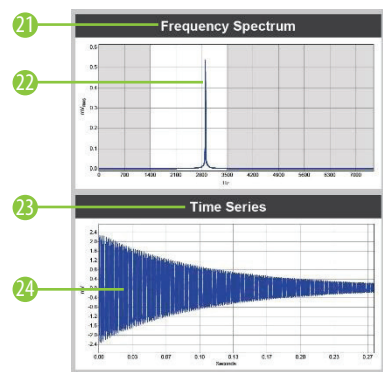
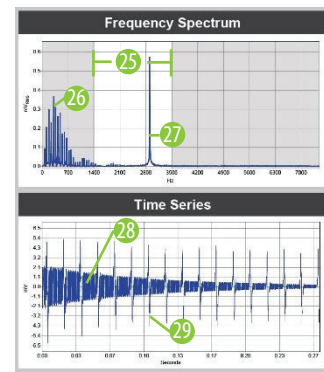

Figure 1: VW Signal
Figure 2: VW Signal With Noise
The following two sets of graphs illustrate the use of VSPECT™ to identify a sensor signal in a quiet and noisy environment. Both graphs were created from VWA reports using the same sensor. Fig. 1 was measured in an electrically quiet environment, while Fig. 2 was measured in an electrically noisy environment (AC power) similar to what can be seen in a field environment (power lines, motors, radio signals, etc.). The time series on Fig. 1 shows a relatively clean signal (24) that is more clearly identified (22) on the frequency spectrum (21). The time series (28) on Fig. 2 shows the influence of the noise (29). Vibrating wire readers that only use the time series (28) to determine the frequency may report an incorrect frequency as a result of noise. The frequency spectrum (VSPECT™) filters the noise (26) and easily identifies the sensor signal (27). VSPECT™ provides noise immunity by correctly identifying the sensor signal and ignoring the influence of electrical noise that plagues time-domain-based vibrating wire readers.